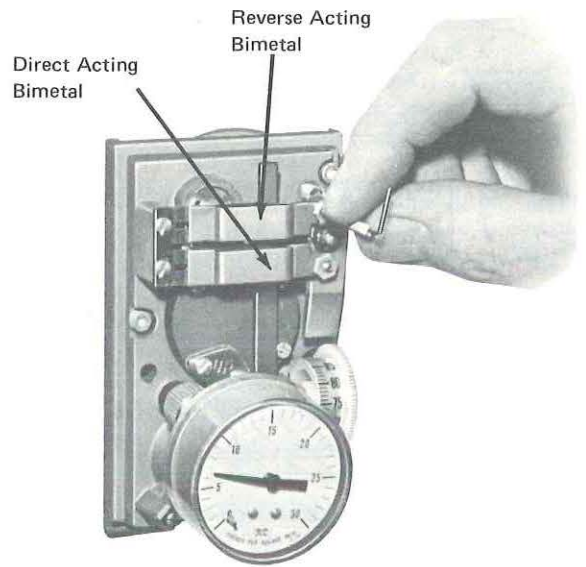

Figure 9
5. With a .048-inch six spline wrench, turn the calibration screw (Figure 9) clockwise if the controlled pressure is above 8 psig and counterclockwise if it is below 8 psig. Adjust the screw until the controlled pressure is 8 ± 1 psi.